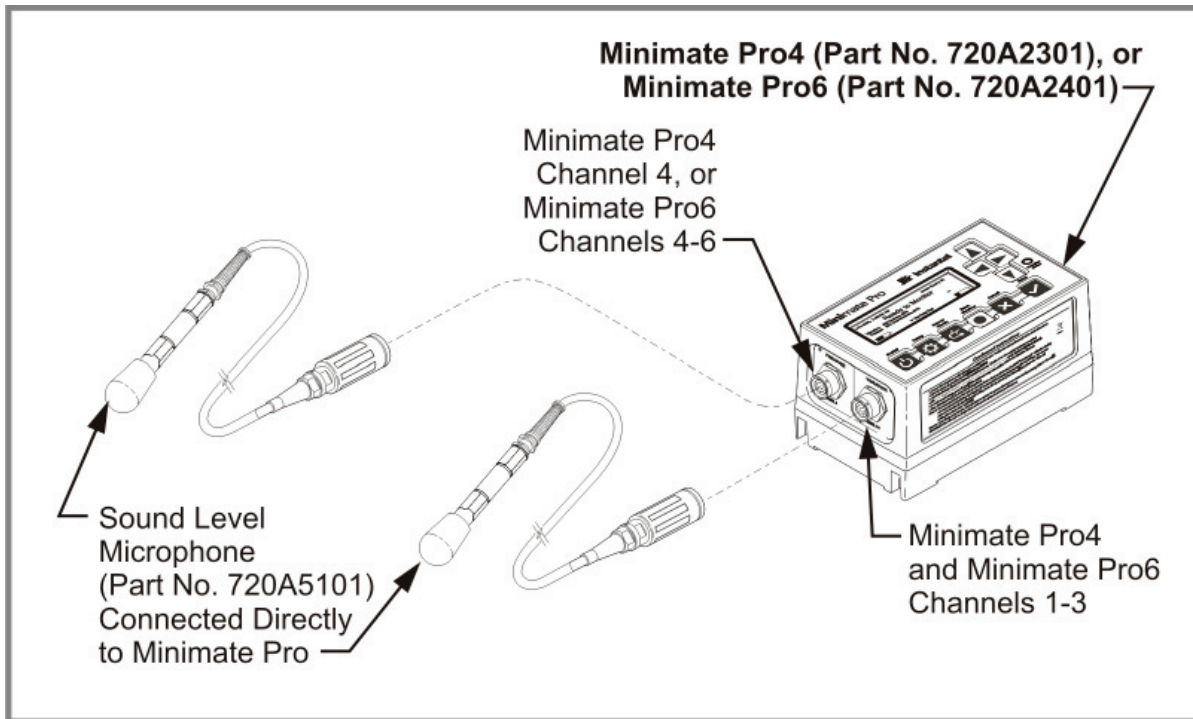

Figure 1
3. Connect the Microphone cable to the monitor as shown in Figure 1.